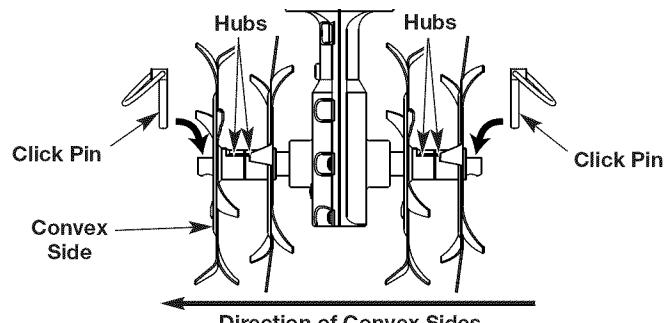

Fig. 9
3. Remove the click pins from each end of the tine shaft (Fig. 9). Slide the tines off of the shaft.
5. Slide on the new tines with the hubs facing in towards each other (Fig. 9).
NOTE: Each tine has a convex side. Make sure that all of the convex sides are facing as shown in Figure 9.
6. Secure the new tines to the shaft with click pins (Fig. 9).